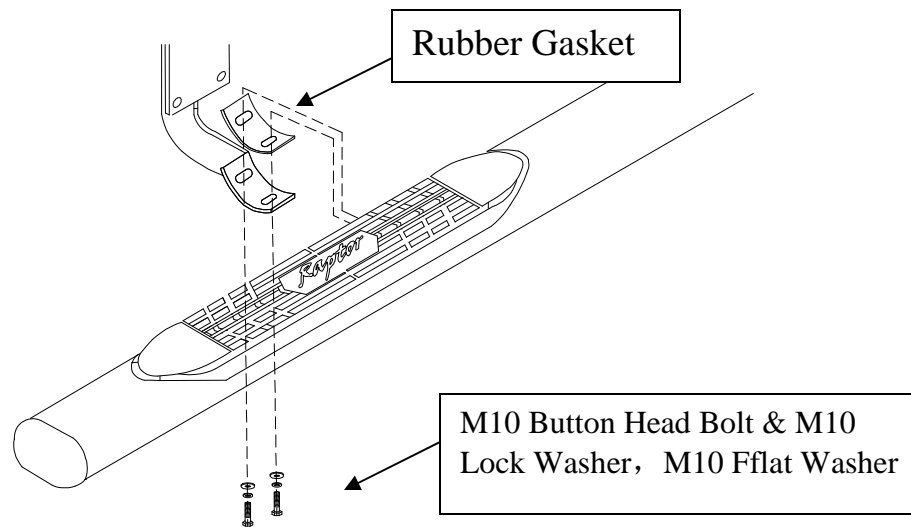

Figure 2. Installation View of Bracket & Bar
6. Assemble with M10 button head bolts and M10 lock washers. 2 bolts per bracket, 6 bolts per bar (**see Fig 2**). Hand tighten.